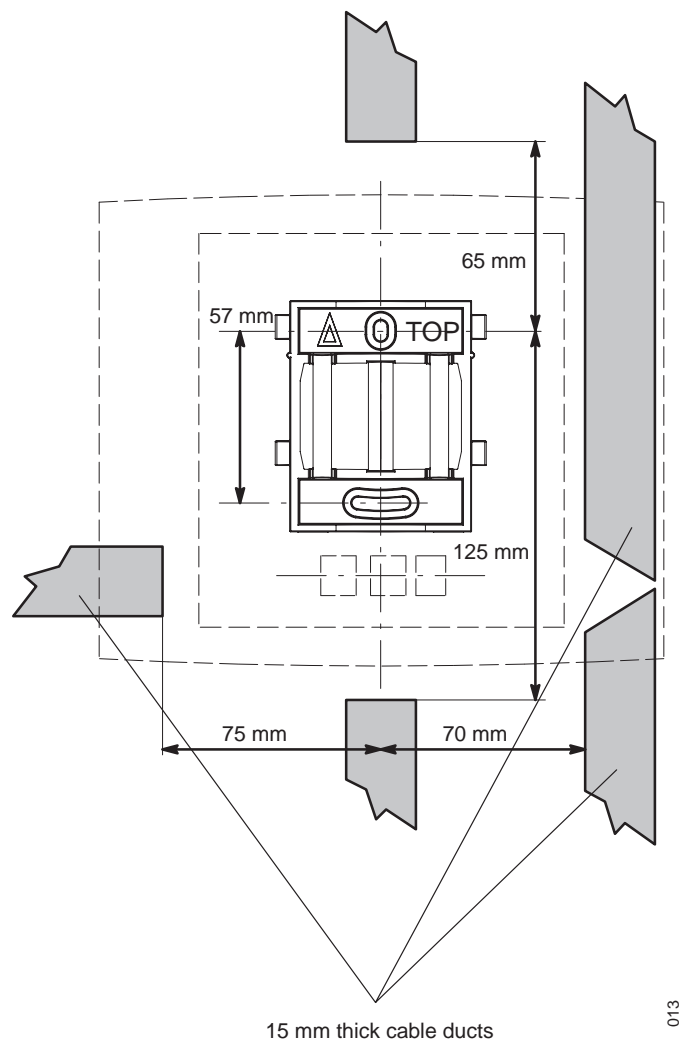

Figure 8. Minimum distances between a cable duct and the mounting bracket
- 1 Fix the cable duct to the wall in one of the positions shown in figure 8 on page 28.